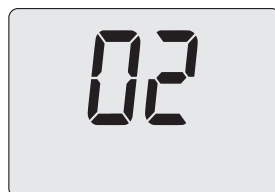

Figure 7.14
- Press 16 (Figure 7.2) to show the value of parameter P06 on the LCD display (Figure 7.14).